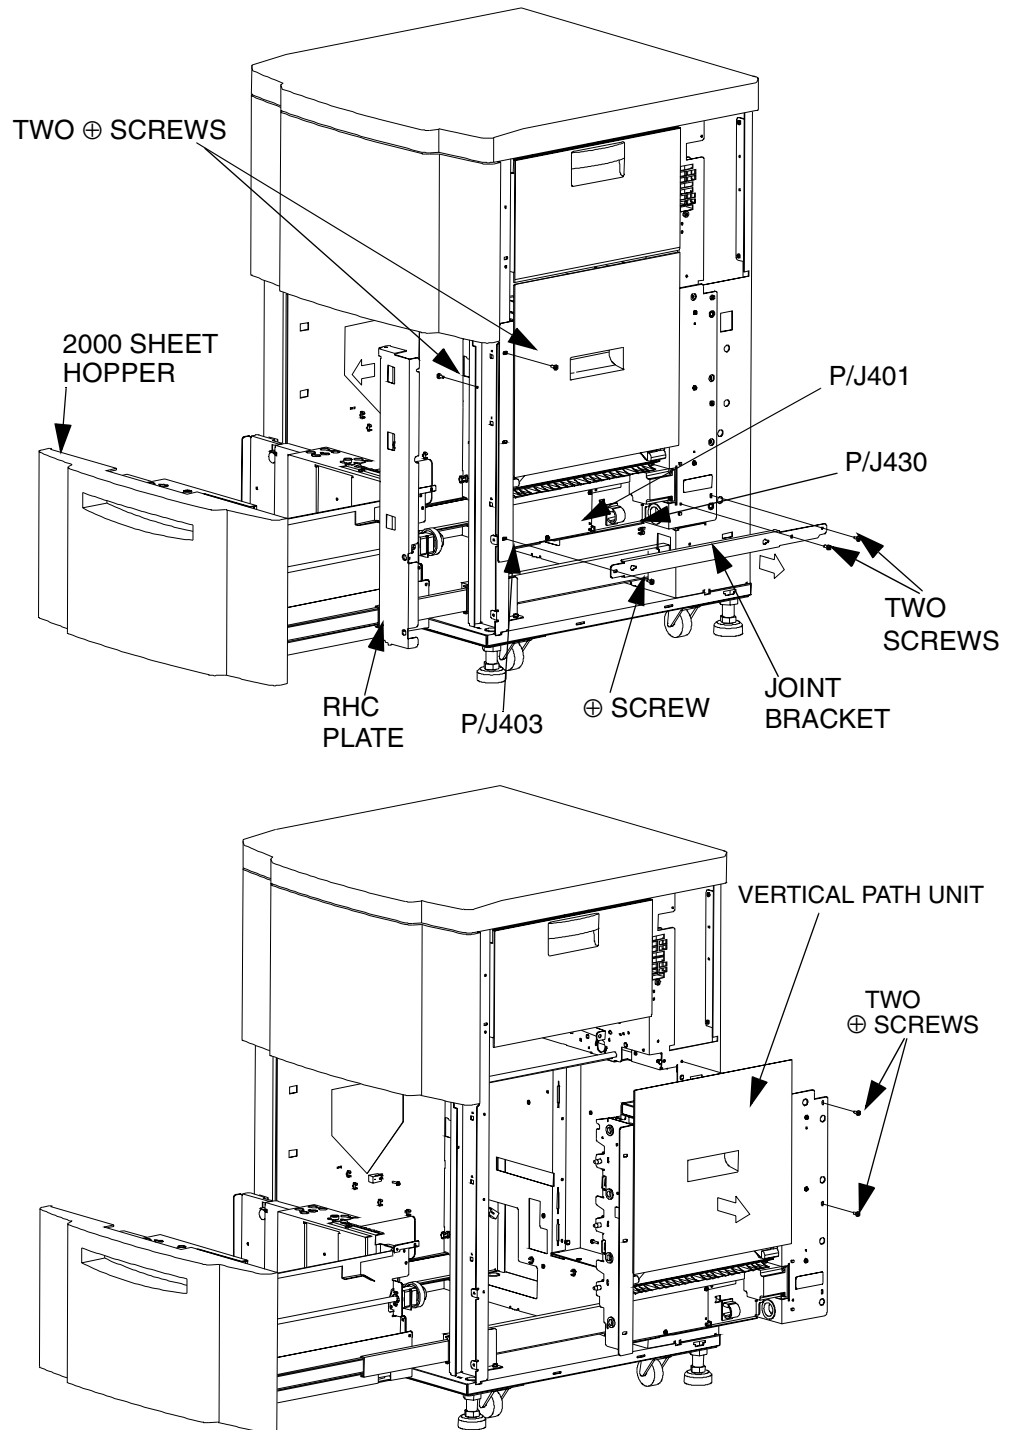

Figure 7-200. Removal of the Vertical Path Unit
1. Remove the RH Cover, the RH Rear Side Cover Assembly, the Rear Cover and the RH Side Lower Cover. (Refer to item 3.3.2. (1) on page 3-12)
2. When the Auxiliary Sheet Hopper is attached, remove it. (Refer to item 7.2.1 on page 7-232)
3. Remove the two 500 Sheet Hoppers. (Refer to item 7.1.4.1 on page 7-161)
4. Unscrew the four screws to remove the Hopper Hold Plate (1).
9. Unscrew the two screws and pull out the Vertical Path unit in the direction of the arrow. (Refer to Figure 7-200 on page 7-179)